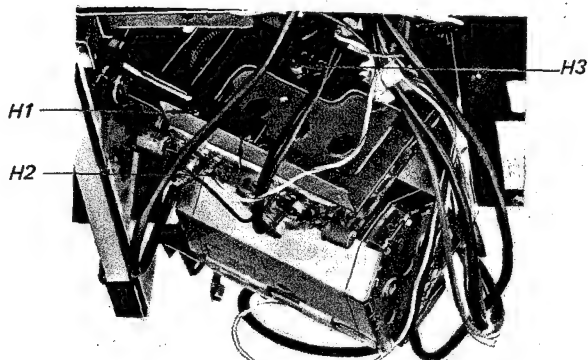

Fig. 2-11.
5. Remove the three screws labeled H1~3 in Fig. 2-11.